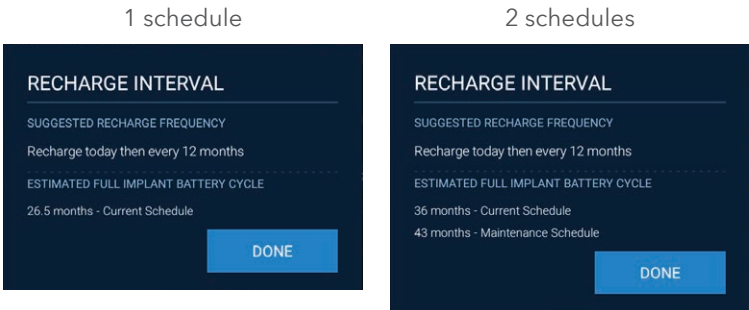

Figure 42. Recharge interval results for 1 or 2 schedules (examples)
The recharge interval calculation will provide 2 calculation measurements; the first shows the “suggested recharge frequency” for your patient, the second shows the estimated interval from a fully-charged battery to a fully-discharged battery (Figure 42).
To guide your patient on how frequently to recharge their INS, encourage good recharge habits, and help avoid therapy disruptions, use the “suggested recharge frequency” on the recharge interval results (Figure 42).
- 3. Stimulation will be turned on during the recharge interval calculation. Once the calculation is complete, the results will be displayed to the screen (Figure 42).